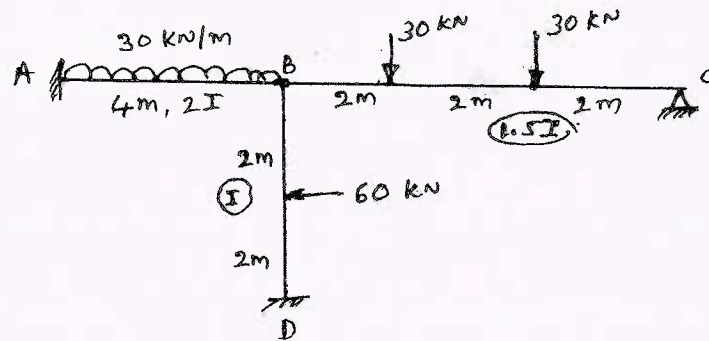

Fig Q4
- 4 Analyse the frame shown in Fig Q4 by moment distribution method. Draw bending moment diagram.